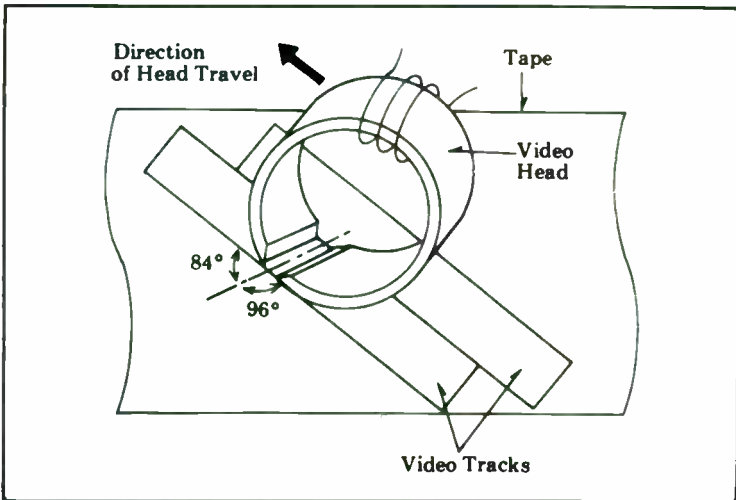

Fig. 1-32. Head and tape alignment (courtesy Magnavox).
-6 degrees. Refer to Figs. 1-32 and 1-33. These heads make the VHS format different from most other VCR formats. Exactly how the azimuths of ± 6 degrees helps to keep out adjacent track interference will be explained next.